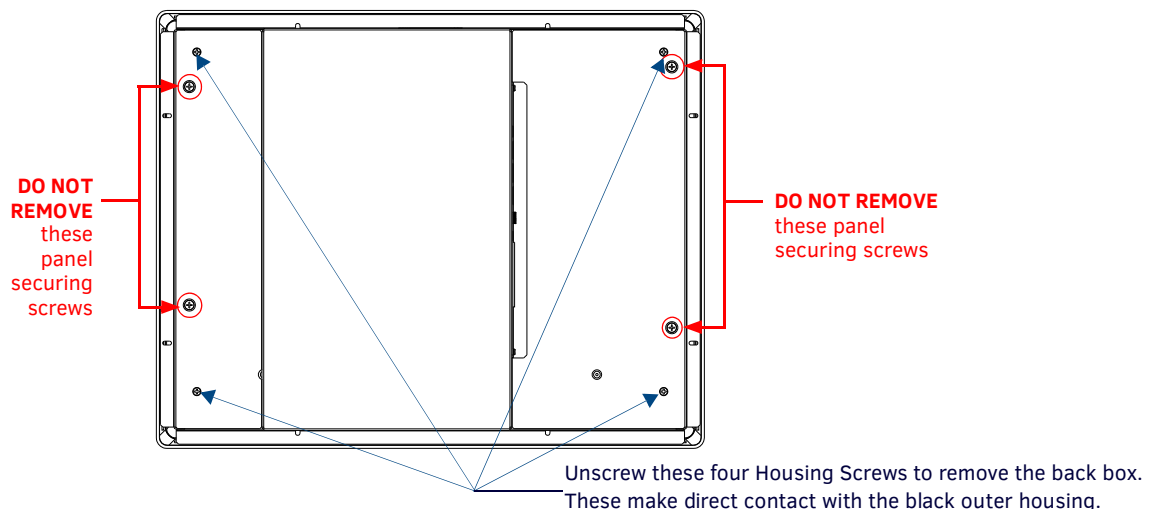

FIG. 50 Location of the attachment screws on the NXD back box
6. Remove the four pan-head Housing Screws from the rear of the NXD unit (FIG. 50). These screws secure the back box to the internal panel casing.